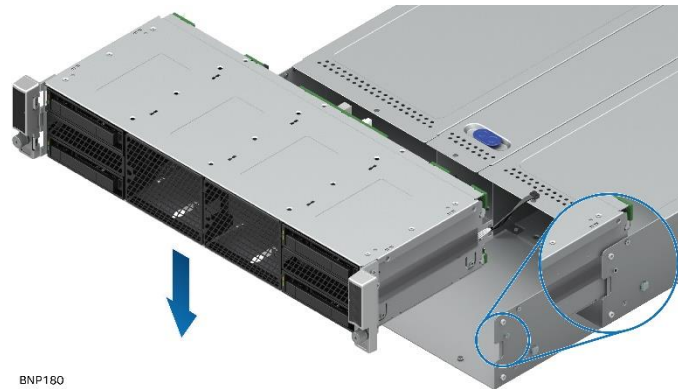

Figure 46. Installing the chassis drive cage – align the drive cage
1. Align the drive cage and backplane assembly to the chassis (Figure 46).